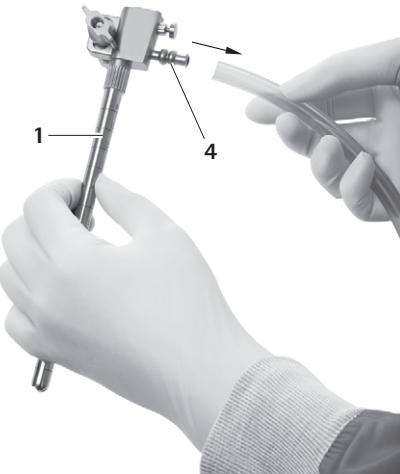

Fig. 12
- ▶ Remove tube from irrigation connector 4, see Fig. 12.